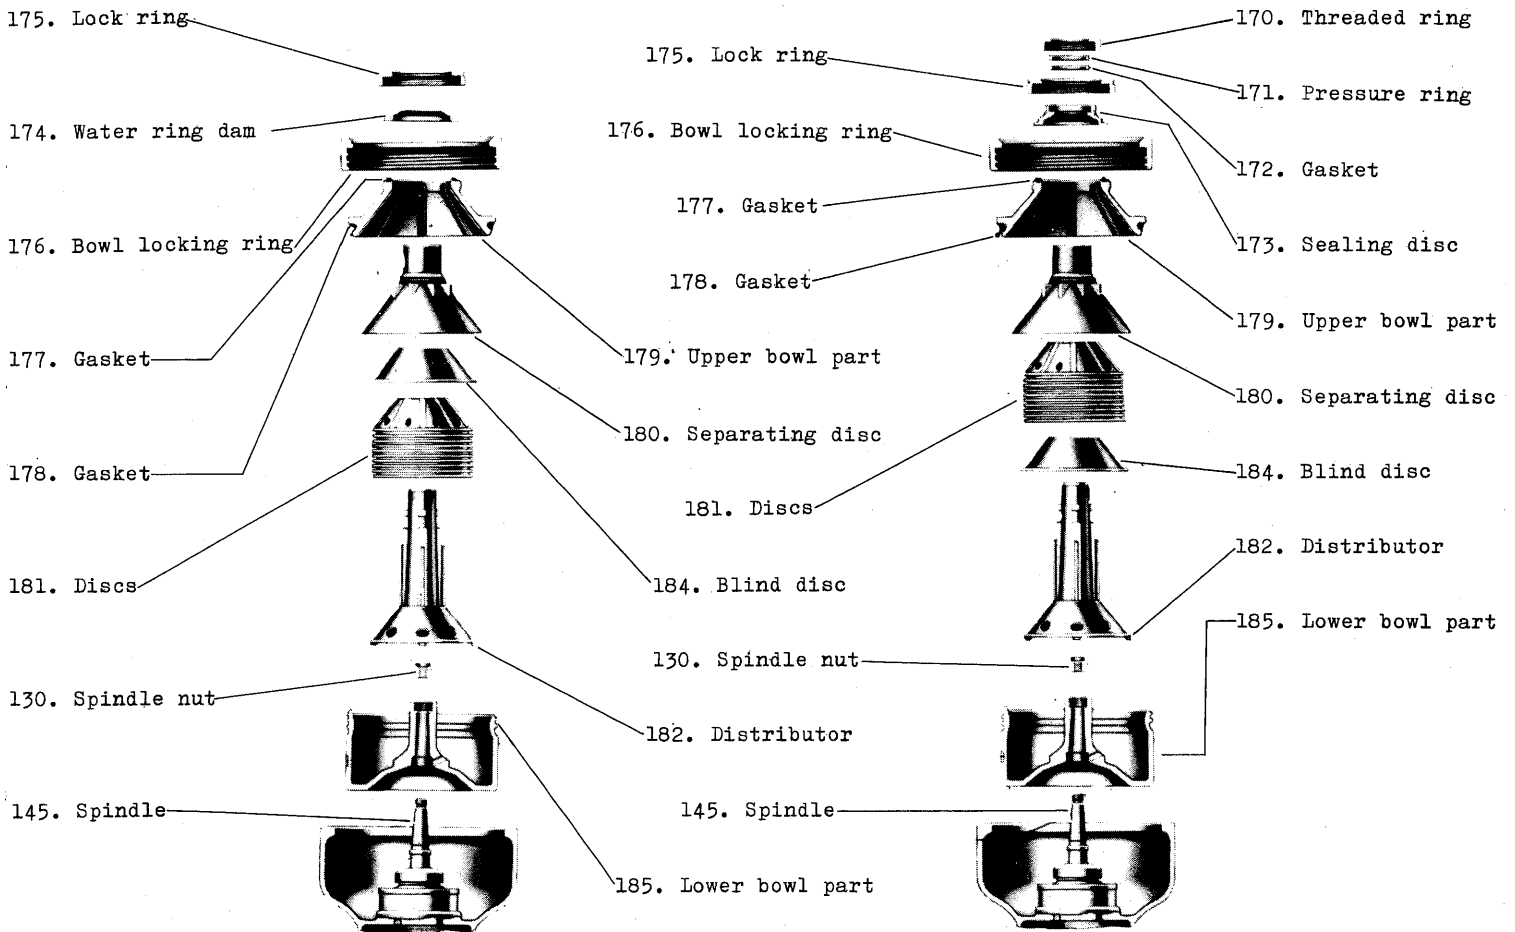

Fig. 5a
For purification: see items 1-6 and 8-14; Fig. 5a and 24-30